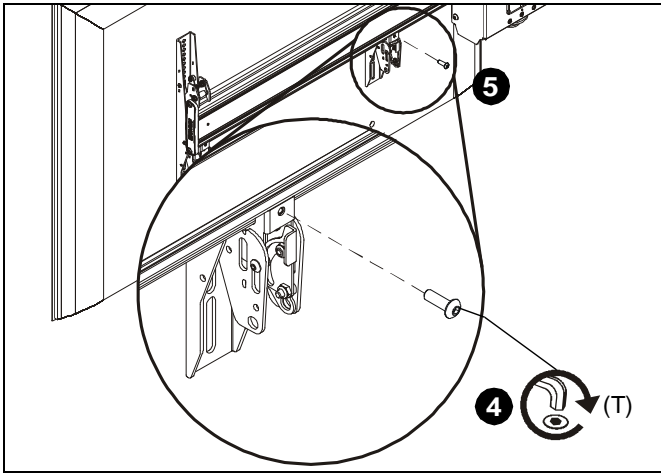

Figure 9
- Fasten bracket against ceiling mount extrusion using one 10-24 x 5/8" button head cap screw (T). (See Figure 9)